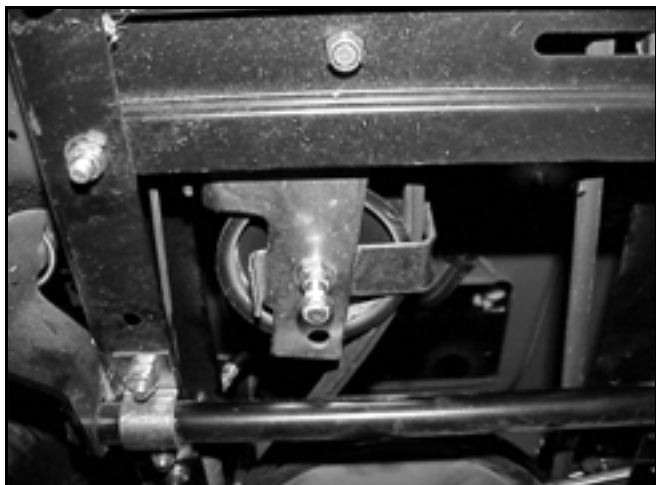

Figure 31
8. Install the idler pulley to the idler bracket. Note the correct hole location of the bolt and nut retaining the pulley and belt guide bracket (Figure 31).